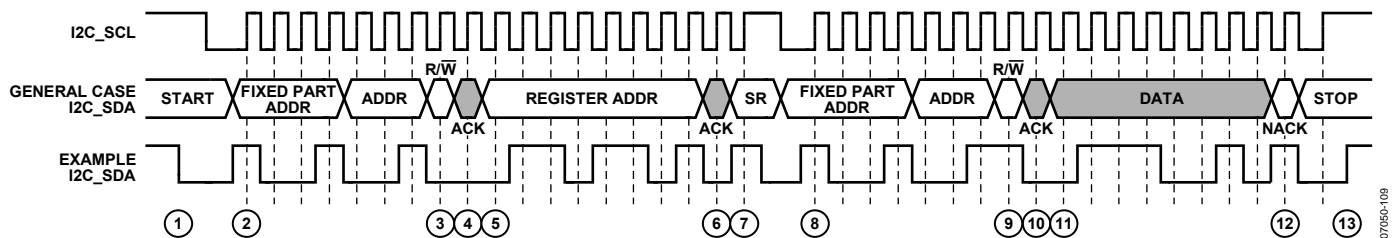

Figure 29. I²C Read Procedure
To read data from the AD8192 register set, an I²C master (such as a microcontroller) needs to send the appropriate control signals to the AD8192 slave device. The signals are controlled by the I²C master unless otherwise specified. For a diagram of the procedure, see Figure 29. The steps for a read procedure are as follows:
3. Send the write indicator bit (0).
9. Send the read indicator bit (1).
- a. Send a no acknowledge followed by a stop condition (while holding the I2C\_SCL line high, pull the SDA line high) and release control of the bus to end the transaction (shown in Figure 29).